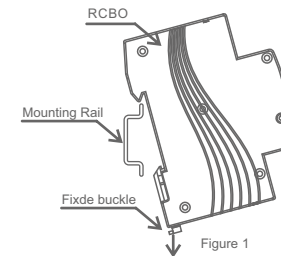
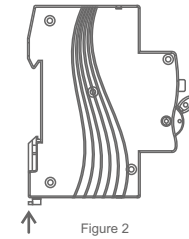

Figure 1
Figure 2
- a. Installation: Pull the fixed buckle of the RCBO down in the direction of arrow 1 according to figure 1, and then put the RCBO in align the rail with the upper end of the installation guide rail (see figure 1), and ensure that the bottom of the RCBO is fully aligned with the installation guide rail. After that (see figure 2), push the fixed buckle of the RCBO into the lower end of the installation guide rail according to the arrow direction in figure 2 to release it.